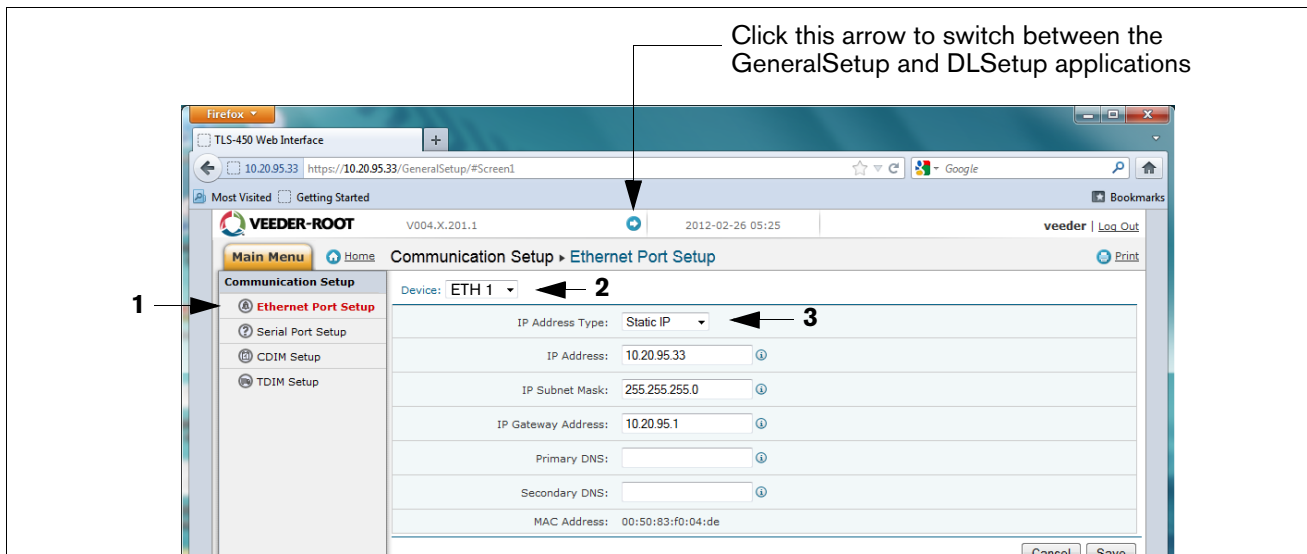

Figure 9. Ethernet Port Setup
NOTE: The DL simultaneously runs two applications; one programs the general communication protocols (GeneralSetup), and the other programs how the DL gathers its information (DLSetup). Pressing the blue arrow at the top middle of the screen will toggle you between the two programs (see Figure 9). After entering selections/changes to fields on any page, click the Save button to save your entries, or Cancel to discard them. Programming screens used to setup the DL are listed in Table 3.
7. On the "Communication Setup" page (see Figure 9), click on "Ethernet Port Setup" (1) and select the Device type "ETH 1" (2) from the drop-down menu. In the IP Address Type field (3):
If the site is using a static IP address, select "Static IP"; and enter the IP address assigned by your network administrator. Once this is complete, click the "Save" button to keep these settings (see example in Figure 9).